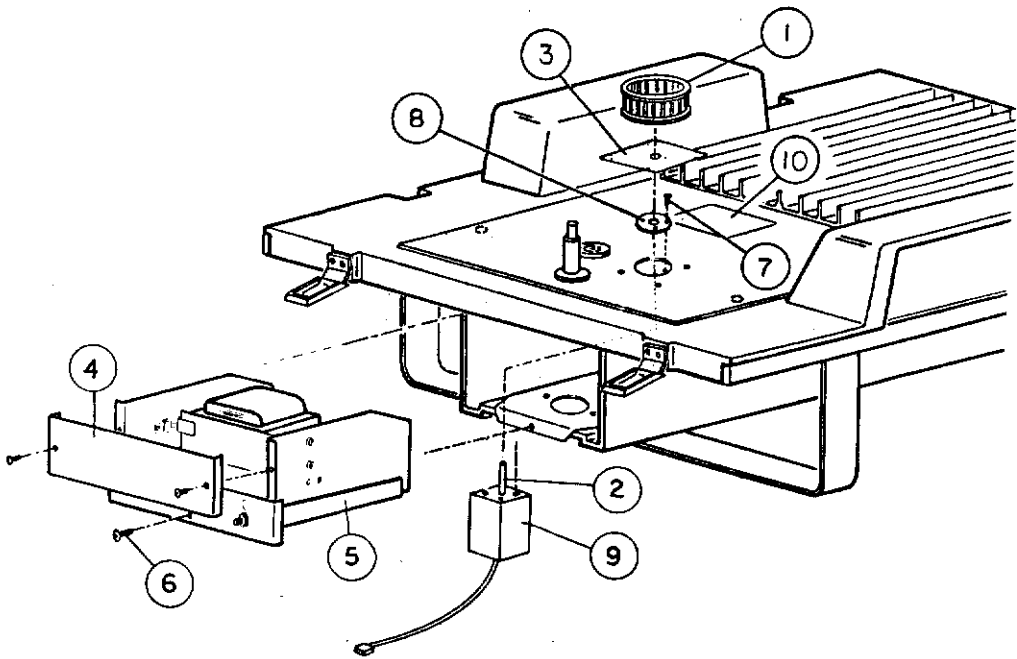

FIGURE 5.4 INSTALLATION OF REPLACEMENT MOTOR
- B. Refer to Figure 5.4. Remove the Impeller (item 1) from the Fan Motor shaft (item 2) and discard.